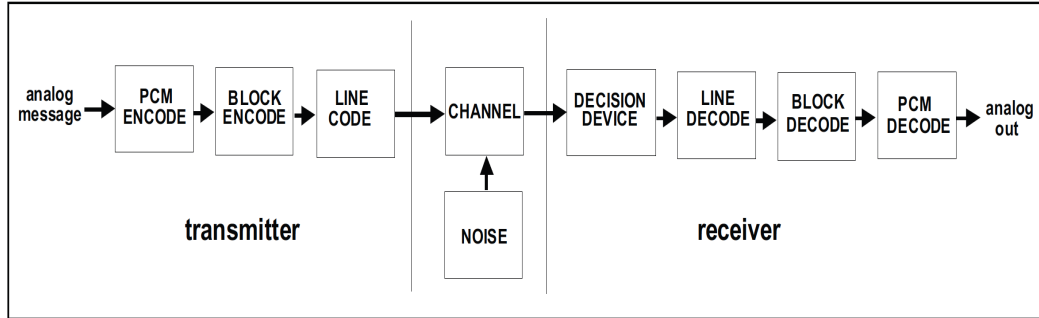
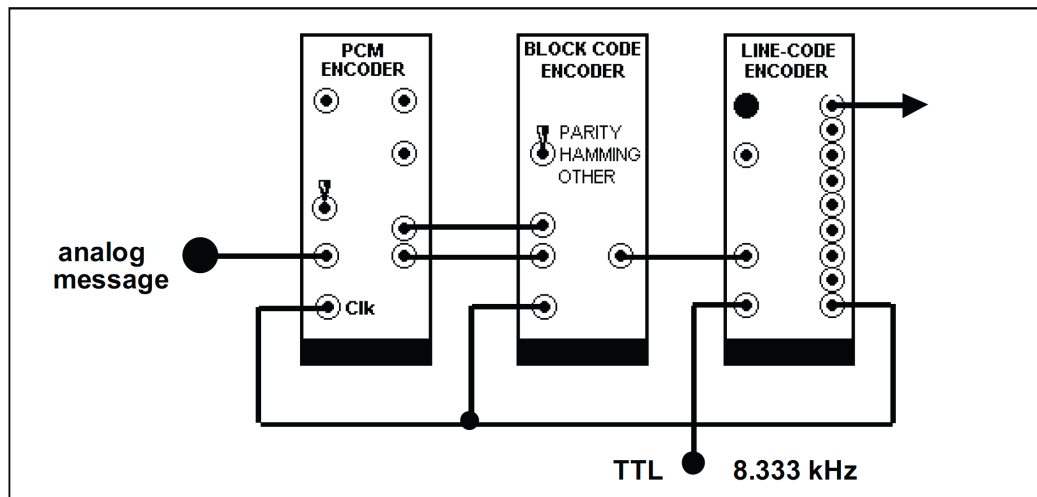
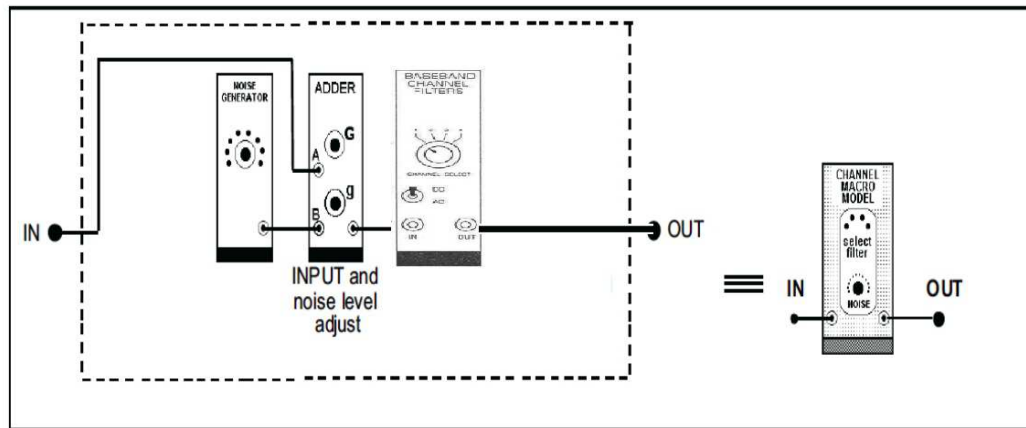

Figure 5.1: The system block diagram
Figure 5.2: The transmitter
Figure 5.3: The macro CHANNEL MODEL module
The overall block diagram of this experiment is shown in Fig. 5.1. It is recommended to implement the system step by step (mentioned below) checking the output of each block using the oscilloscope .
1. patch up the model of Fig. 5.2 which is the transmitter (left part) in Fig. 5.1
1. patch up the noisy channel in Fig. 5.3 using TUNEABLE LPF for the bandlimitation and connect the output signal of Fig. 5.2 to be the input signal of the noisy channel